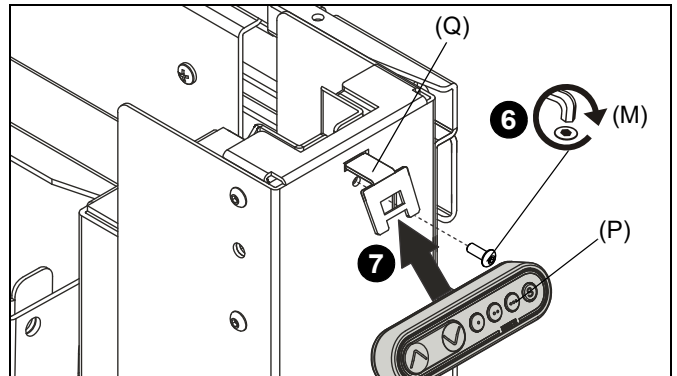

Figure 25
6. Use #6-32 x 3/8" button head cap screw (M) to secure control pad bracket (Q) to mount. (See Figure 25)
7. Install control pad (P) onto control pad bracket (Q). (See Figure 25)